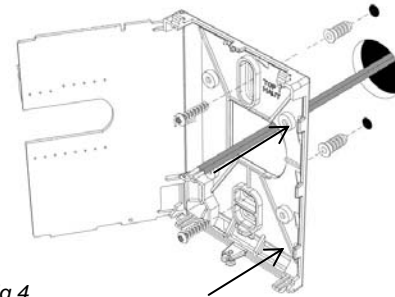

Fig.4
1. Swing open the Terminal Equipment Controller PCB to the left by pressing the PCB locking tabs. **(Fig. 4)**
7. Insert screws in mounting holes on each side of the base. **(Fig. 4)**